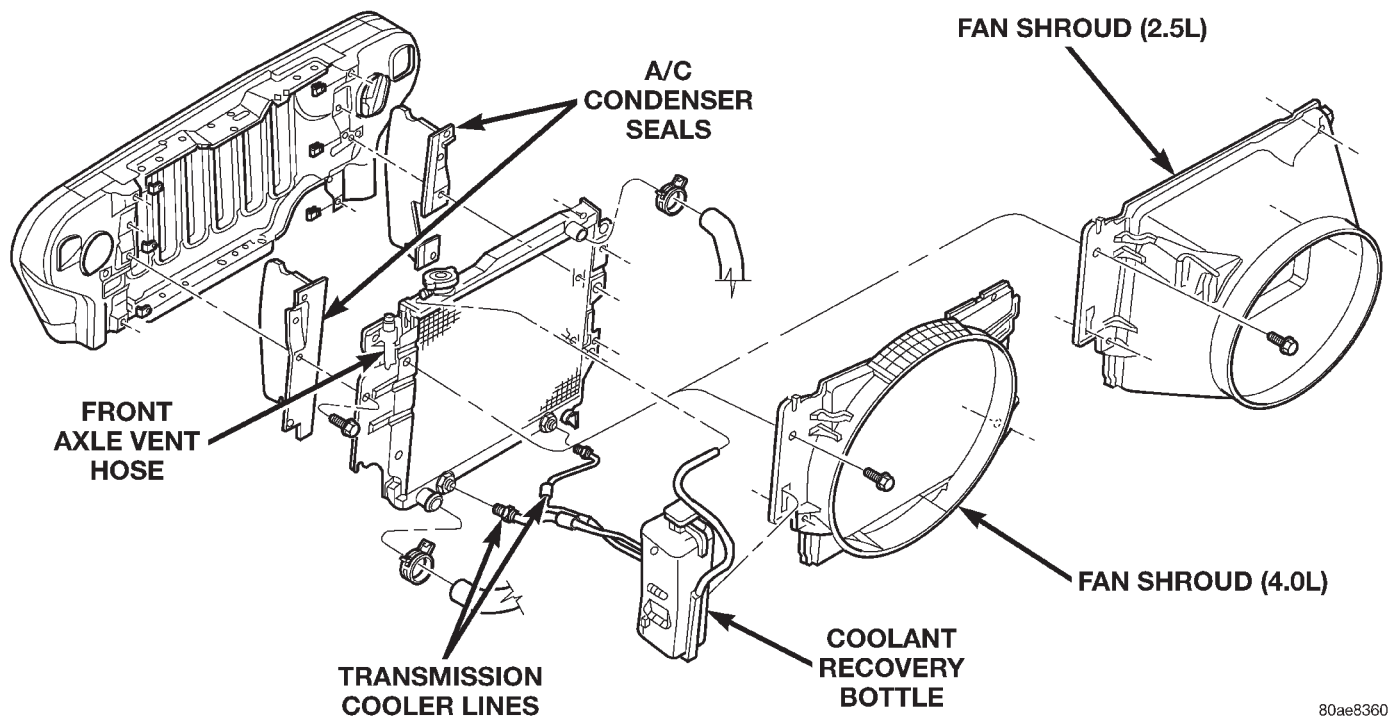

Fig. 25 Radiator—Remove/Install
- (1) Disconnect negative battery cable at battery.
- (2) Observe the previous **WARNING**. Remove the radiator cap.
- (3) Position drain pan under draincock. Open radiator draincock and drain radiator. **DO NOT WASTE** reusable coolant. If solution is clean, drain coolant into a clean container for reuse.
- (4) Remove radiator upper and lower hose clamps. Remove radiator hoses.
- (5) Disconnect coolant reserve/overflow tank hose from radiator.
- (6) Remove the four fan shroud mounting bolts (Fig. 25). On some models the power steering fluid reservoir tank is attached to the side of the fan shroud. Tie the reservoir back to prevent spillage. Position the fan shroud back over the fan blades.
- (7) If equipped, disconnect and plug automatic transmission fluid cooler lines.
(8) Remove six radiator mounting bolts. Position the front axle vent hose (Fig. 25) to the side.
(9) Lift radiator straight up and out of vehicle taking care not to damage radiator fins.
(10) When removing radiator, note position of the rubber seals located on the top and bottom of radiator (on certain models only) (Fig. 25). To prevent possible overheating, these seals must be installed to their original positions.
- (1) Position the radiator. Install and tighten the six mounting bolts (Fig. 25) to 8 N·m (72 in. lbs.) torque.
- (2) Close radiator draincock.
- (3) Position fan shroud and power steering reservoir tank (if equipped). Install and tighten four mounting bolts to 8 N·m (72 in. lbs.) torque.
- (4) If equipped, remove plugs and connect automatic transmission fluid cooler lines. Tighten fittings to 16 N·m (140 in. lbs.)
- (5) Connect radiator hoses and install hose clamps.
- (6) Connect battery negative cable.
- (7) Fill cooling system with correct coolant. Refer to Cooling System Refilling in this group.
- (8) Connect coolant recovery bottle hose.
- (9) Install radiator cap.
- (10) Check and adjust automatic transmission fluid level (if equipped).
- (11) Start engine and check for leaks.